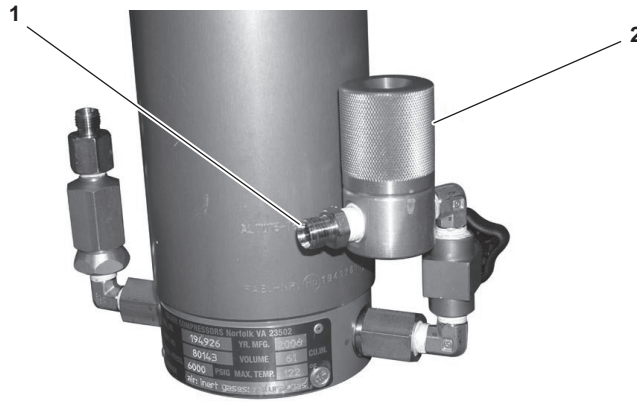

Figure 6-15. CO/H₂O Indicator Housing and Fitting
- (1) Remove the P1 purification chamber IAW procedures in paragraph 6.4.11.b.
- (2) Using a 5/8 inch wrench, remove the fitting (figure 6-15, item 1) from the CO/H₂O indicator housing (figure 6-15, item 2) by turning the wrench CCW.